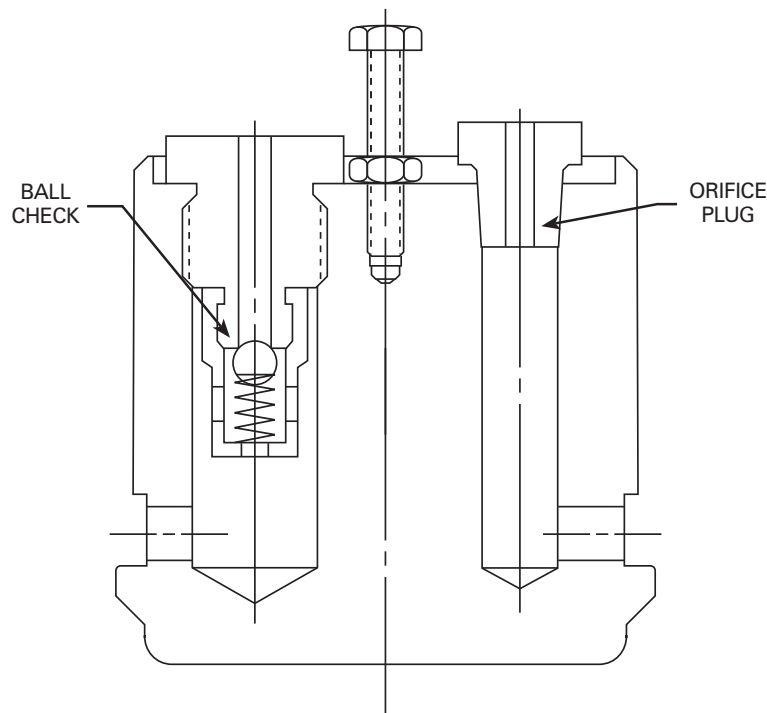

Figure 1
**Stabilized/non-slam piston.** Pulsating flow through the valve, if unrestricted, would cause the piston to follow the rapidly cycling line pressure, resulting in vibration, chattering and possibly slamming of the piston. The ball check and orifice plug built into the piston are to prevent this from happening. (Fig. 1)